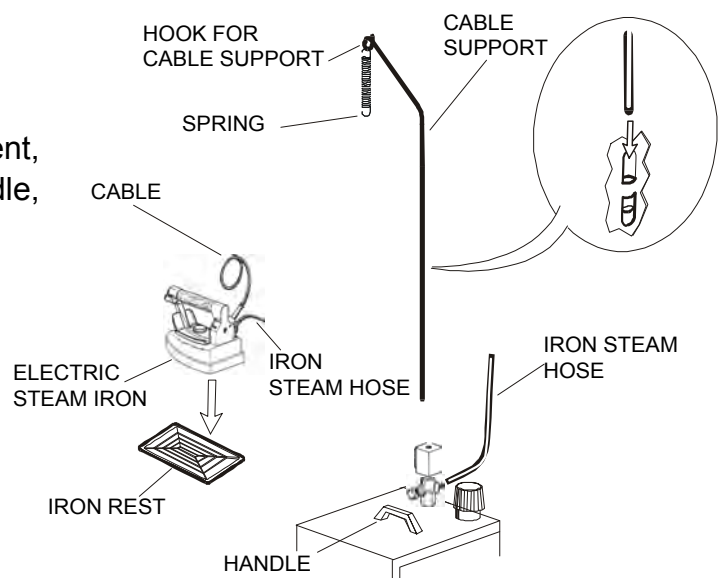

Fig. 1
For the transport and the displacement, take the generator only by the handle, never pull its electric wires (fig. 1).
2. Remove MINI 5 from the box, insert the cable support deep into the special support holder (fig. 1) placed on the back side of the generator.
4. Put the iron on its rubber iron rest (Fig.1).
3. During ironing operation, always put the iron on its rubber rest (fig. 1) and pay attention to the position of the wires: if they twine or get in touch with ironing board, they might cause short circuits.